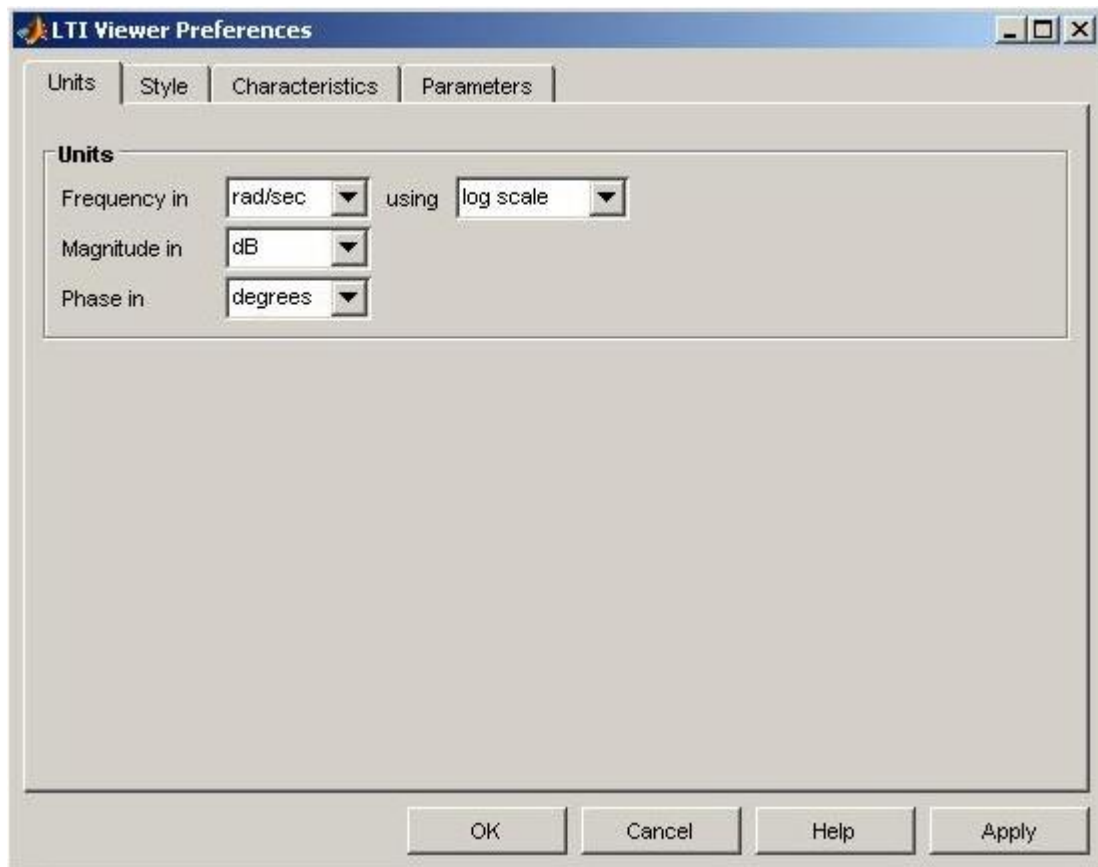

Fig. M5.7 *LTI Viewer Preferences window*
8. **Viewer preferences:** Choose **Viewer Preferences...** in the **Edit** menu. **LTI Viewer Preferences** window (Fig. M5.7) will open. This allows users to set parameters such as units (**Units**), style of labels (**Style**), response characteristics definitions (**Characteristics**), and also provide a control over the time and frequency vector generation (**Parameters**).